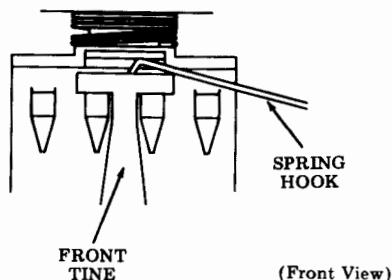

Fig. 8—Front Tine Disengagement
(3) Continue applying upward pressure to the RETURN key and disengage the front tine from housing using a spring hook. Remove key with housing from channel (Fig. 8).